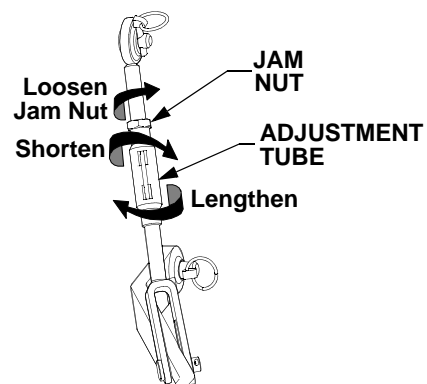

Figure 26
- Adjust the RH adjustable lift link to *level* the lower hitch links. Loosen the jam nut and turn the adjustment tube as shown in Figure 26 to shorten or lengthen the lift link. Tighten the jam nut against the adjustment tube after adjusting.